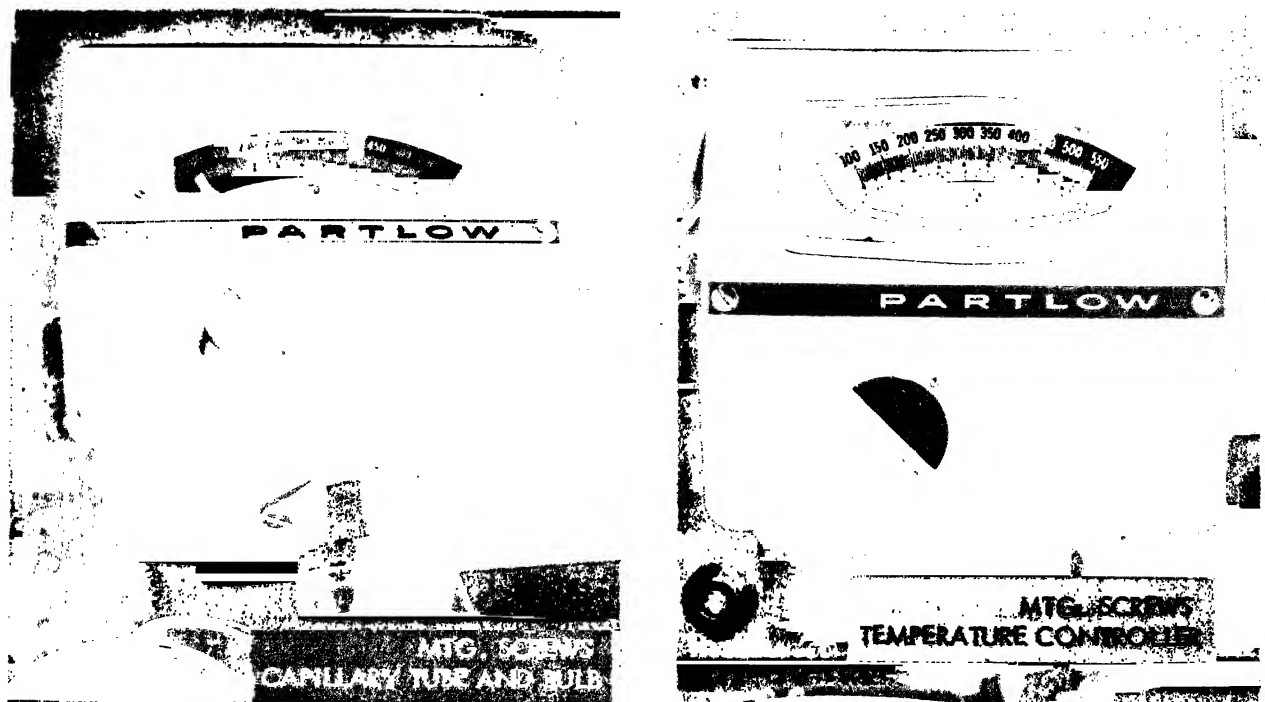

FIGURE 26. REMOVAL AND SERVICE OF TEMPERATURE CONTROL
1. Refer to Fig. 26 and remove the hot oil temperature controller and replace with a reliable testing thermometer.
5. Following replacement of the capillary tube and bulb, perform steps one (1) through three (3) above. If the temperature controller does not respond as indicated in three (3) above, the controller is defective and should be replaced.
6. It is possible to calibrate the control (Fig. 26) using the small wrench provided. This calibration should not be made unless the capillary tube and bulb has first been checked as outlined in one (1) through three (3) above.
- b. Removal. Refer to Fig. 26 and remove the temperature controller.